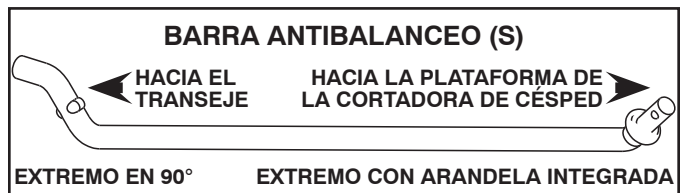

Fig. 8
## 5. SI LA TIENE, INSTALE LA BARRA ANTIBALANCEO (S) (Vea Fig. 8 - 11)